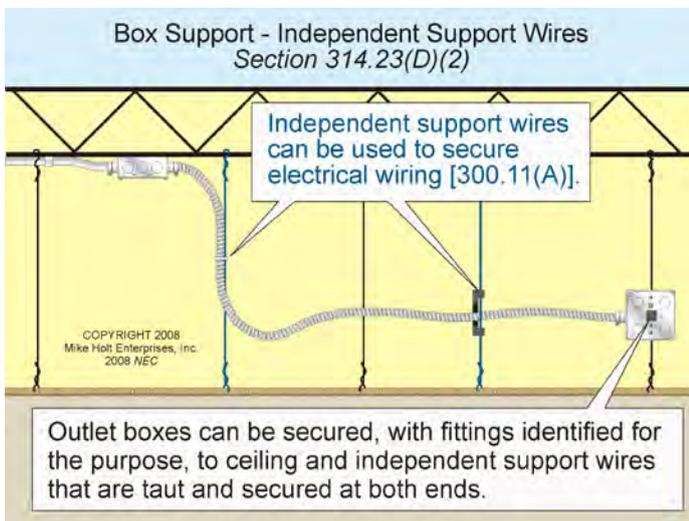

Figure 314-15
(2) Independent Support Wires. Outlet boxes can be secured, with fittings identified for the purpose, to the ceiling support wires. Where independent support wires are used for outlet box support, they must be taut and secured at both ends [300.11(A)]. **Figure 314-15**